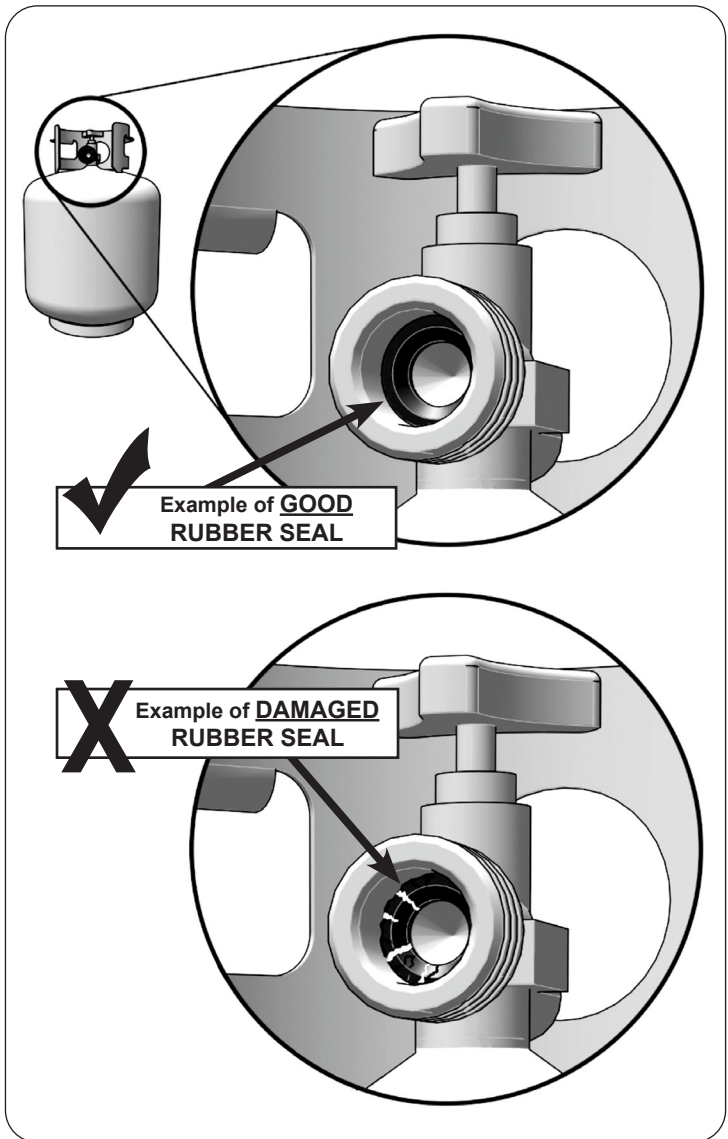

Fig. 9-1 Inspect rubber seal
- D. **CGA 791 connections on LP gas cylinders:** The cylinder face elastomeric face seal element on these devices could, over time, show marked and visible damage or deterioration that might cause a leak even with the connection tightened. A visual inspection for the seal must be carried out every time a LP gas cylinder is replaced or refilled. Any LP gas cylinder showing signs of damage or deterioration as illustrated in Fig. 9-1, including visible cracks and pitting, must be replaced.